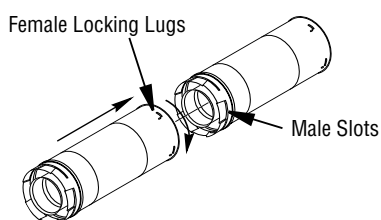

Figure 12 - Vent Pipe Connections
Twist-Lock Procedure: Female ends of pipes have locking lugs (indentations). These lugs will slide straight into matching slots on male ends of adjacent pipes. Push pipe sections together and twist one section clockwise approximately one-quarter turn until sections are fully locked (see **Figure 12, Page 19**).
2. Assemble desired lengths of pipe and elbows necessary to reach from fireplace flue up through firestop. Be sure all pipe and elbow connections are fully twist-locked (**see Figure 12, Page 19**).